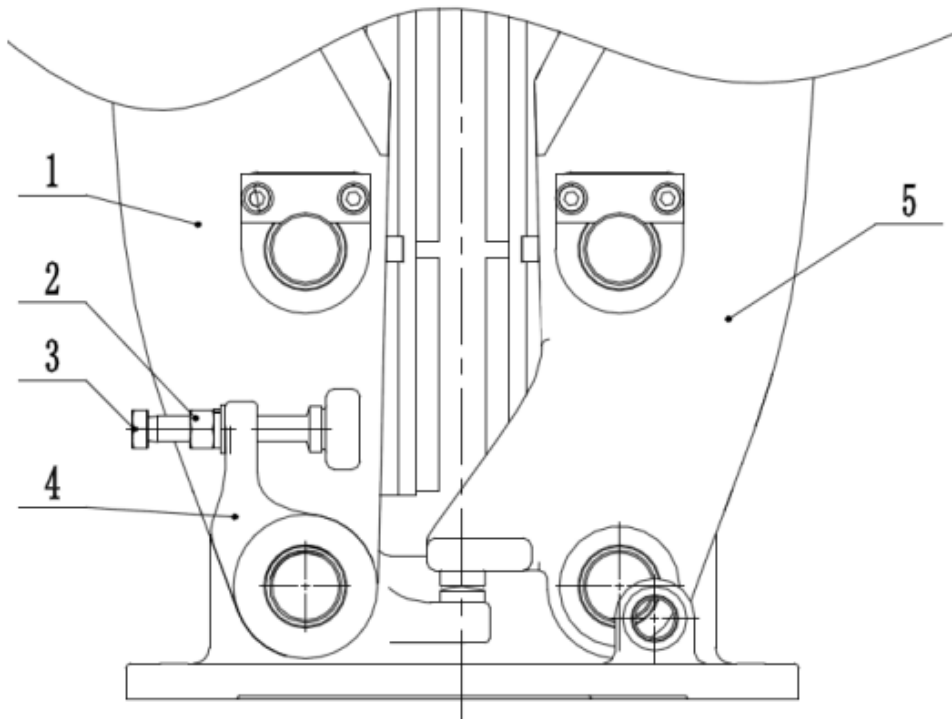

Fig. 11: Synchronization linkage (self-centering device)
Refer to fig 11: Open the brake by thruster and check the air gap between the brake lining and brake disc. If the air gap is not equal, loose locknut (Pos. 2) and turn the adjusting nut(Pos. 3) until the air gap on both sides is equal. Tighten the lock-nut (2) when the air gap is fine.